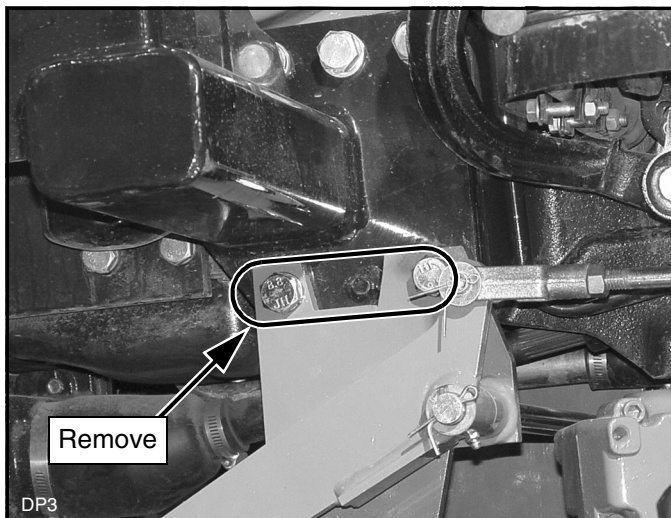

Figure 5. Remove Hardware - Left Side Shown
1. Remove two bolts connecting loader mount/mid-mount mower bracket to the tractor frame. See Figure 5.